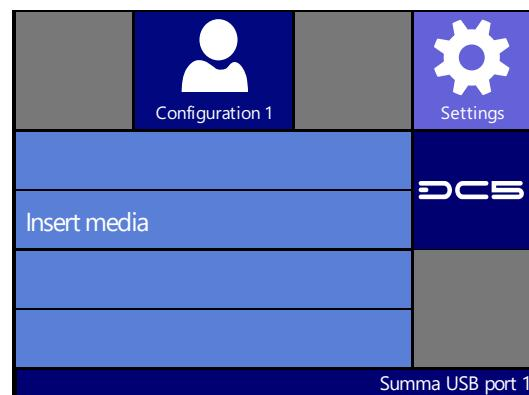

FIG 1-10
2. Insert a media core holder in each end of the media roll. Check if they are loosened. If not, loosen them with the black knob at the side. Figure 1-10 shows a loosened (1) core holder and an expanded (2) core holder.